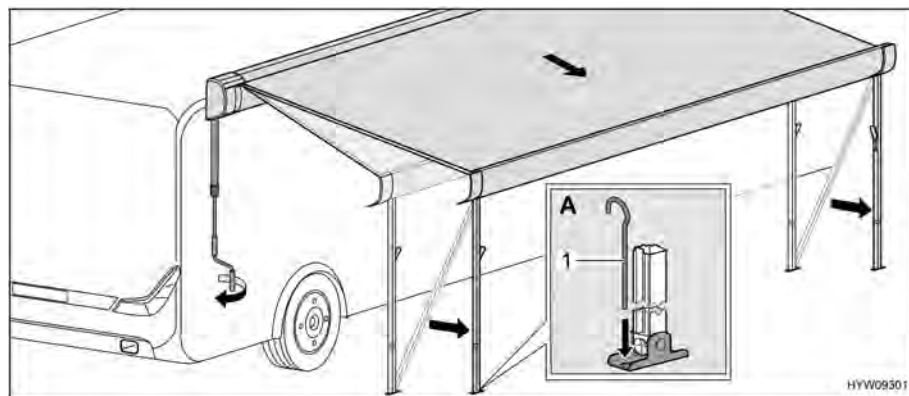

Fig. 13 Bringing awning into end position
- Fix the support legs to the floor with tent pegs (Fig. 13,1) (Fig. 13,A).